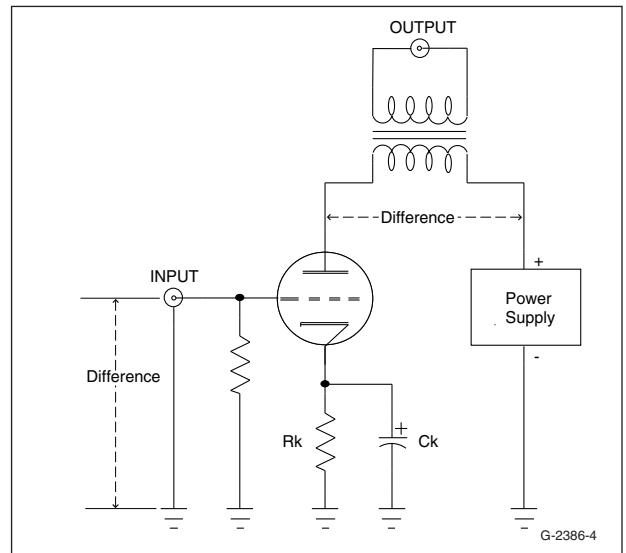

FIGURE 4: Signal references in a single-ended line stage.
As shown in Fig. 4, the input signal is taken as the difference between ground and the grid, while the output is the difference between the plate and the positive terminal of the power supply. The positive terminal of the power supply is theoretically at signal (AC) ground; however, because of the limitations in physical devices, a real AC impedance exists.